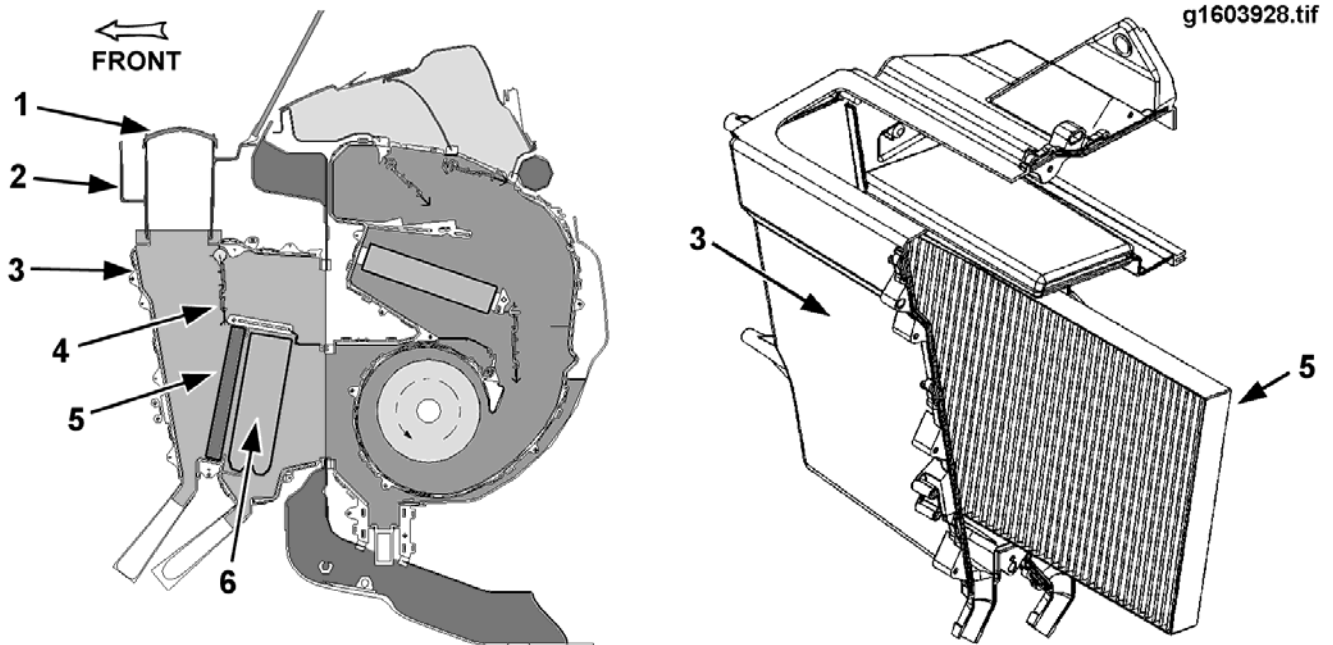

Figure 28 Cutaway View of Evaporator Housing
2. Verify that fresh/recirculate air door is open (4, Figure 28). This can be done by looking into cowl tray air inlet.
4. Reaching into the HVAC air inlet, located in evaporator housing (3, Figure 28), remove air filter (5) by compressing top of filter, tipping it to the front, and lifting it straight up.
1. With the filter pleats vertical, place filter (5, Figure 28) into evaporator housing (3) through air inlet.